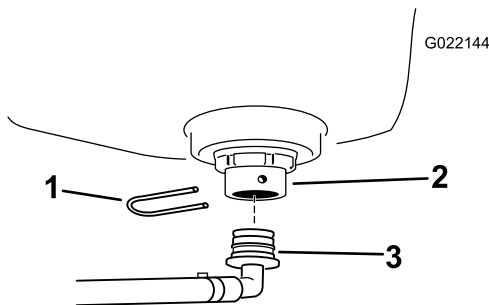

Figure 12
2. Install the rinse tank hosebarb to the bulkhead fitting and secure it with a retaining fork (Figure 12). Rotate the fitting so that it faces rearward.